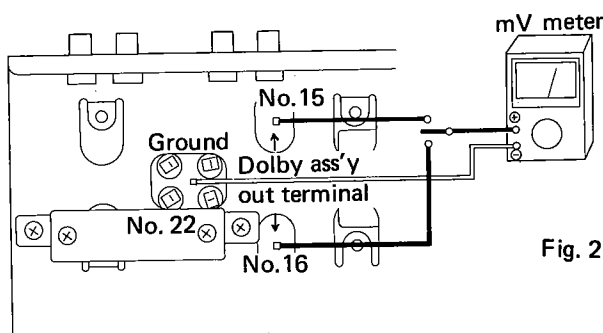
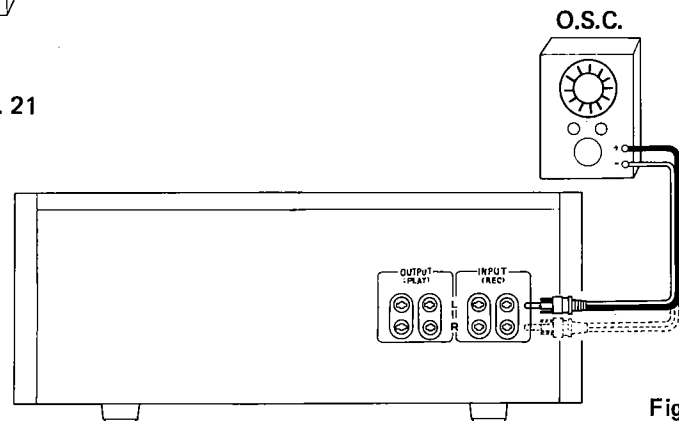

Fig. 21
Fig. 22
#### 9.3 PLAYBACK LEVEL (Fig. 21)
**9.4 0VU ADJUSTMENT (Fig. 21, Fig. 22)**
## 9.9 RECORDING LEVEL (Fig. 21, Fig. 22)
## 9.12 LEVEL METER SCALE ACCURACY (Fig. 21)
9.13 DOLBY ADJUSTMENT (Fig. 21, Fig. 22)